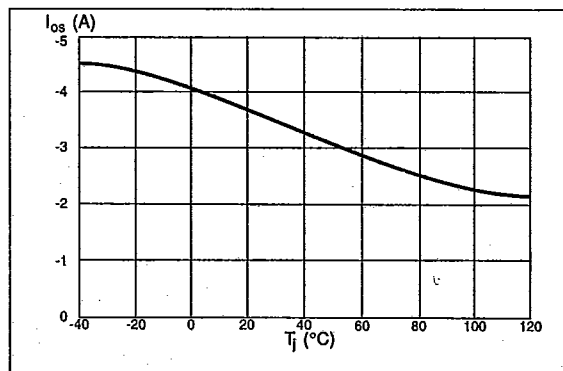

Figure 9. Typical output current shut-down vs. chip temperature. $5V \leq V_{cc} \leq 40V$.
The overload protection will typically be activated at $I_{out} = 3.5A$ at $T_j = +25^{\circ}C$, see figure 9.
- Figure 9 shows the output current shutdown vs. junction temperature.